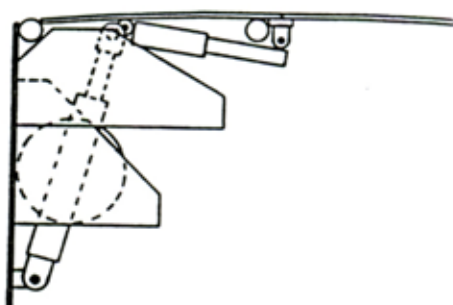

Figure 4
5. Release button. Leveler will lower to transport vehicle bed (Figure 4).